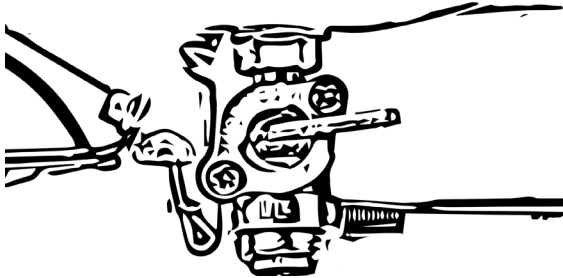

Figure 18
- Switch the fuel tap to OFF, Fig. 18.